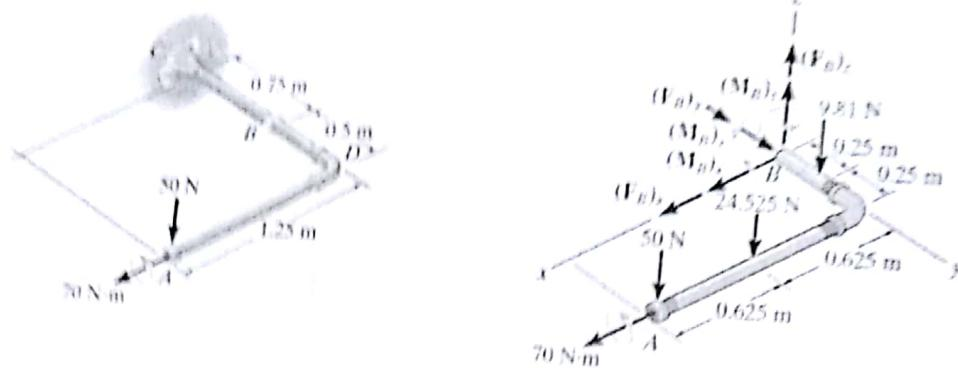

Fig. 4
4. Determine the resultant internal loadings acting on the cross section at B of the pipe shown in Fig. 4. The pipe has a mass of  $2 \text{ kg/m}$  and is subjected to both a vertical force of  $50 \text{ N}$  and a couple moment of  $70 \text{ Nm}$  at its end A. It is fixed to the wall at C.